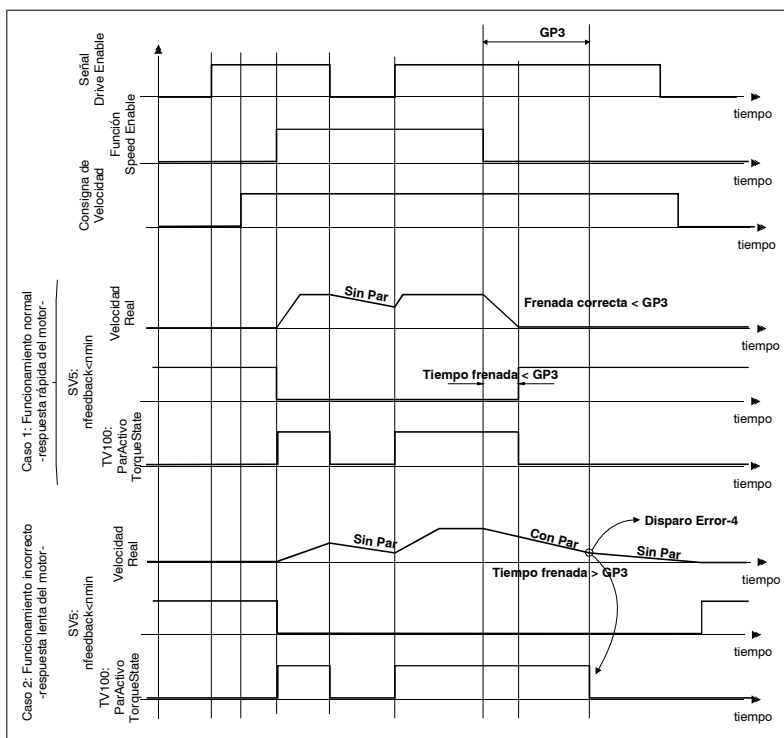

FIGURE H3.59
2. The motor will respond to all analog command variations only while both inputs (Drive Enable and Speed Enable) are at 24 V DC. If any of them is deactivated, the following will happen. See the operation modes in **FIGURE H3.59**.